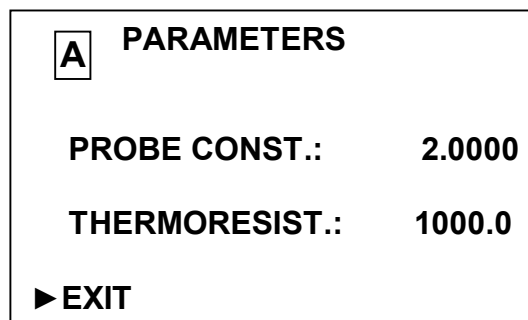

Figure 1.14
- The screen is shown in Fig.1.14 below.